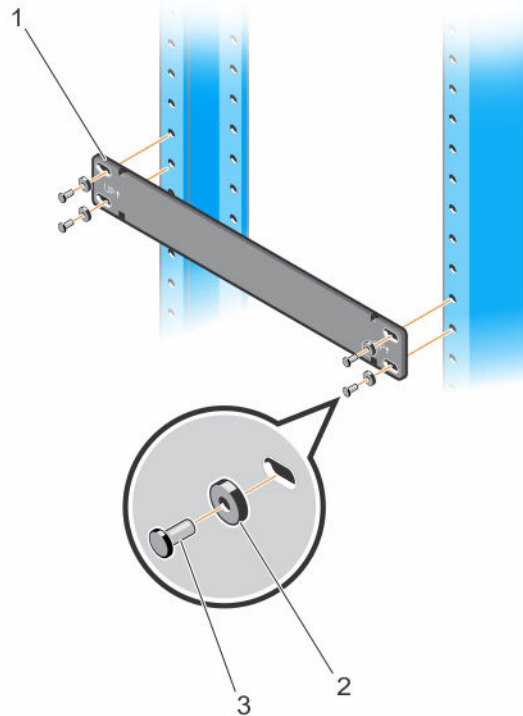

Figure 2. Installing a Rack Bar in a 2-Post Rack
Hold the rack bar (item 1 in Figure 2) so that the smooth side faces outward and the arrows point upward. Attach the bar to the front-rack posts using the mounting screws and washers provided with the rack bar (items 2 and 3 in Figure 2).